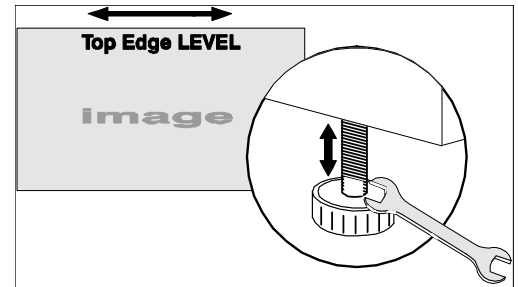

Figure 2-32 Level the Top Edge
4. **RE-CHECK SIDE-TO-SIDE LEVELING:** With a good test pattern on screen, double-check projector leveling (refer to Section 2.3 Projector Position and Mounting) so that the top edge of the image is parallel to the top edge of the screen. See **Figure 2-32**.